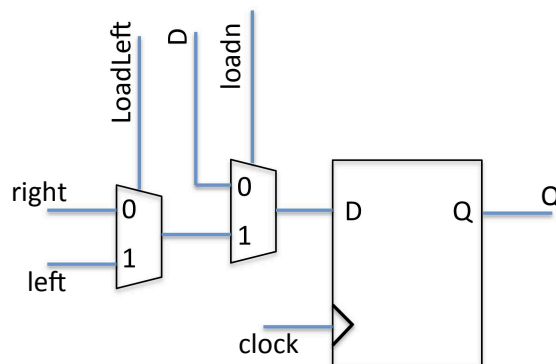
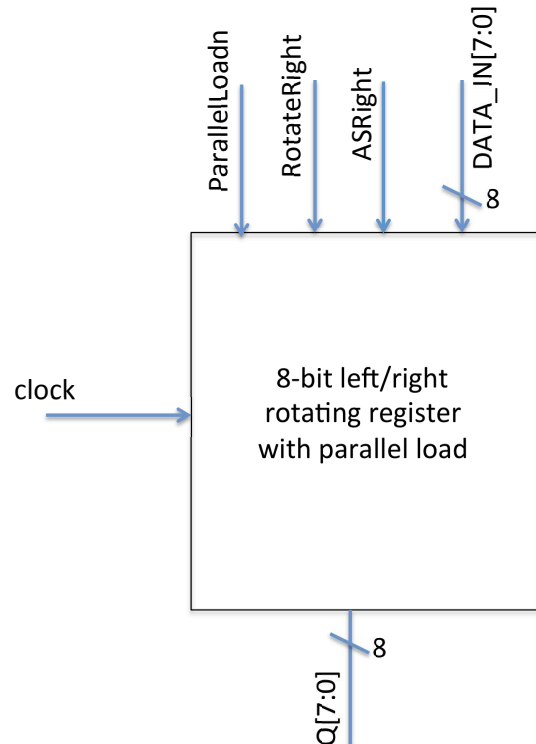

Figure 2: Sub-circuit for Part II.
Figure 3: Top-level circuit for Part II.
Figure 2 shows a positive-edge-triggered flip-flop with several multiplexers. In this part of the lab, you will use eight instances of the circuit in Figure 2 to design a left/right 8-bit rotating register with parallel load shown in Figure 3. The *LoadLeft* input of all eight instances of the circuit in Figure 2 should be tied to a single rotating register input *RotateRight* because when you want to rotate the bits right, you have to load the bit to the left. The *loadn* input of all eight instances should be tied to a single rotating register input *ParallelLoadn*. The *clock* input of all eight instances should be tied to a single rotating register input *clock*. Create an 8-bit-wide rotating register input *DATA\_IN*, whose individual wires *DATA\_IN[7]* to *DATA\_IN[0]* are tied to the *D* input of each instance of the circuit in Figure 2. Likewise, create an 8-bit-wide rotating register output *Q*, whose individual wires *Q[7]* to *Q[0]* are tied to the *Q* output of each instance of the circuit in Figure 2.
The remaining connections between the eight instances of the circuit in Figure 2 should realize the following behaviour:
Figure 3 shows the inputs and outputs of the top-level left/right rotating register circuit with parallel load, which will contain eight instances of the circuit in Figure 2.
1. Draw a schematic for the 8-bit rotating register with parallel load. Your schematic should contain eight instances of the circuit in Figure 2. Paste the schematic into your lab book. Label the signals on your schematic.
3. Write a Verilog module for the circuit in Figure 2.
4. Write a Verilog module for the rotating register with parallel load that instantiates eight instances of your Verilog module for Figure 2. This Verilog module should match with the schematic in your lab book. Use  $SW[7:0]$  as the inputs  $DATA\_IN[7:0]$ . Use  $SW[8]$  as the *RotateRight* input,  $SW[9]$  as the *ASRight* input and  $SW[10]$  as the *ParallelLoadn* input. Use  $KEY[0]$  as the clock, but **read the important note below about switch bouncing**. The outputs  $Q[7:0]$  should be displayed on the red LEDs ( $LEDR[7:0]$ ).